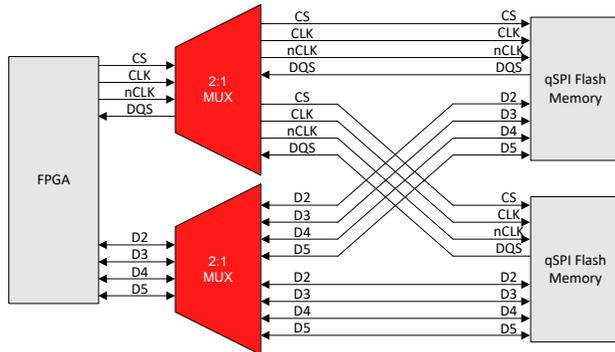

Figure 4. FPGA Access to Multiple Quad SPI Flash Memories
that implement multiple parallel data lines in the SPI interface rather than a single COPI line and single CIPO line. Quad SPI frequently uses eight total signal lines: one chip select line (CS), one data strobe line (DQS), two differential clock lines (CLK and nCLK), and four data lines (D0, D1, D2, and D3). Octal SPI includes four additional data lines (D4, D5, D6, and D7), resulting in a total of 12 signal lines. **Figure 4** shows an example of access to multiple quad SPI flash memories using two 4-channel 2:1 multiplexers.